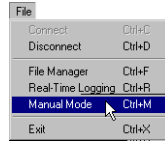

Figure 2-37. File->Manual Mode
2. Start PCView on your computer. Once a connection between the receiver and computer has been established, change PCView to manual mode (Figure 2-37).